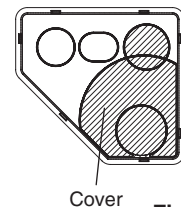

Fig. 1-199
- * When routing the tubing out through the top or right sides, cut out the cover of the top panel and cut notches in the side panel (Refer to Fig. 1-199).
Use a box cutter or similar tool to cut out the part of the cover indicated by the marked area (Fig. 1-199), to match the positions of the tubes. Pass all refrigerant tubes through this hole.